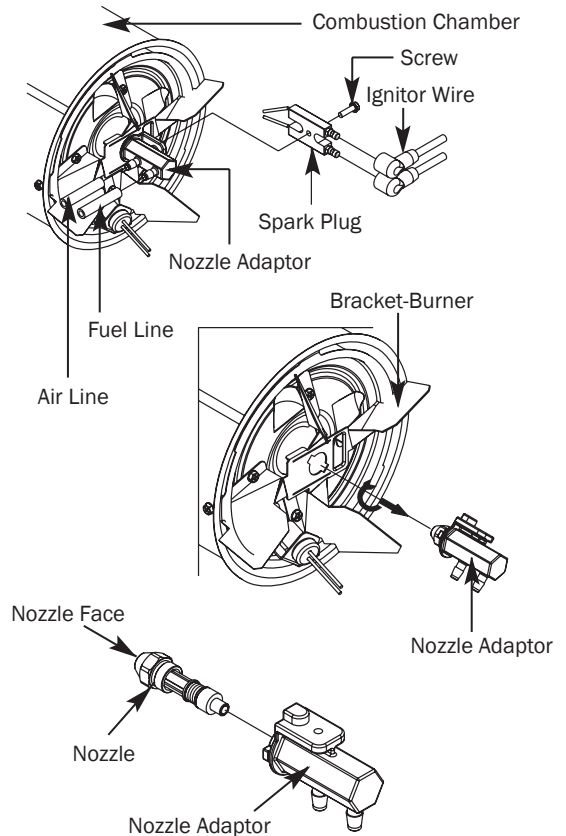

Figure 17 – Nozzle Replacement CP220AK
- Turn nozzle adaptor 1/8 turn (45°) to counter clock wise and pull toward motor to remove. (See Figure 17)